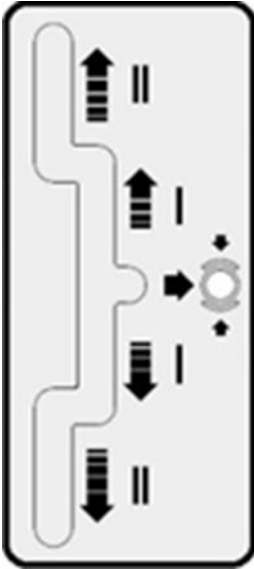

Fig. 4-25: Guiding Slot of Propel lever
→ When the propel lever is pushed to the high speed guiding slot (II), the speed will increase as shown in Fig. 4-25.